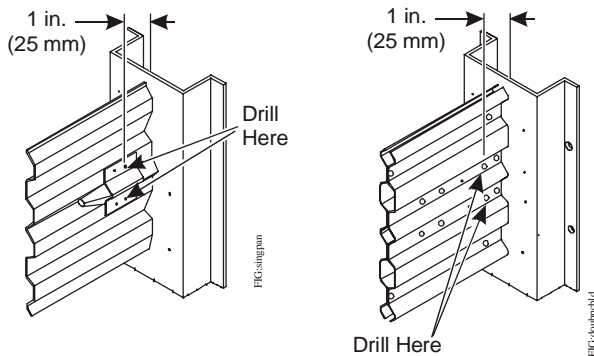

Figure 2: Single-Piece (Left) and Double-Piece (Right) Blades
- Single Piece Blades** - drill out the first punch marks from the end channel as shown in Figure 2.
- Double-Piece Blades** - drill out the second set of nuggets from the end channel as shown in Figure 2.